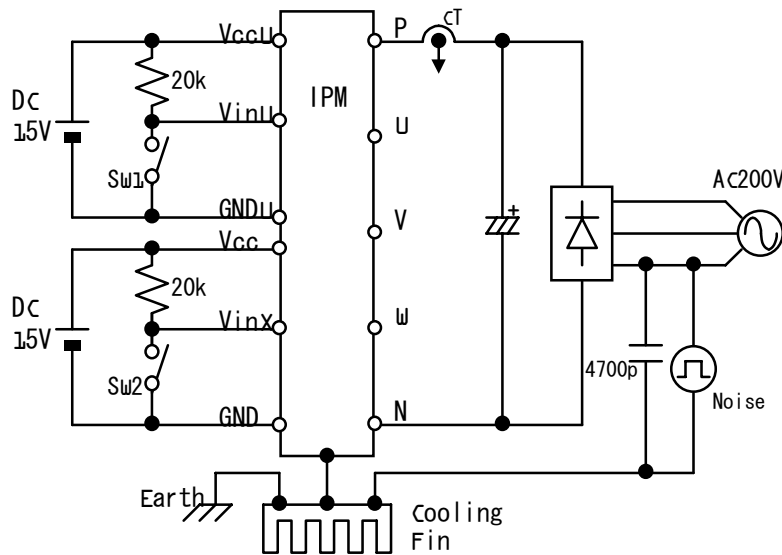

Figure 5. Noise Test Circuit
7. Noise Immunity (Vdc=600V、Vcc=15V、Test Circuit Fig 5.)